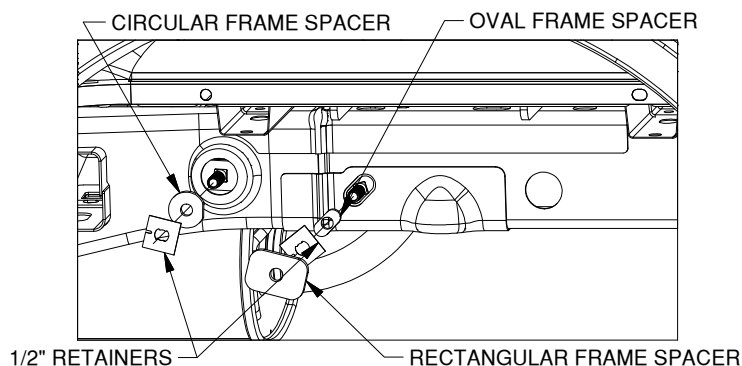

Figure C3: View of driver side wheel well.
1. **Install forward carriage bolt.** Each carriage bolt is held in the frame with a locking strap, frame spacer and 1/2" retainer. Locate the forward mounting hole shown in Figure C1. Attach the carriage bolt to the locking strap by passing the bolt through the strap. Insert the locking strap through the mounting hole, until it is completely inside the frame and only the carriage bolt is passing through the hole, see Figure C2. Install a circular frame spacer onto the bolt, see Figure C3. To prevent the bolt from falling into the frame, thread a retainer onto bolt until it is snug.
2. **Install rear carriage bolt.** Locate the rear mounting hole shown in Figure C1. Use a fish wire to thread the rear carriage bolt and locking strap into the mounting hole, see Figures C1 & C2. Install an oval frame spacer onto the carriage bolt, see Figure C3. Thread a retainer onto the bolt until it is snug against the frame. Place a rectangular frame spacer on the rear carriage bolt. Repeat Steps 1 & 2 on the other side of the truck.